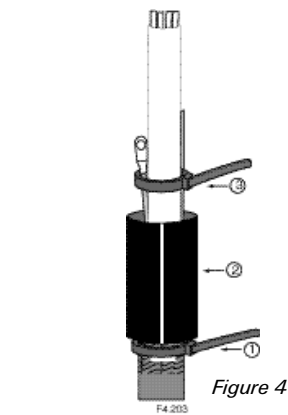

Figure 4
11. Place a tie wrap at the pencil mark on the cable sheath. Slide the black heat-shrink tubing with the white stripe over the adhesive rings and let it rest on the tie wrap. (Figure 4) If cable is below .5" in diameter, use the smaller black heatshrink tubing from the cable termination kit.
12. Place another tie wrap around the core tube and wires above the tube. (Figure 4)